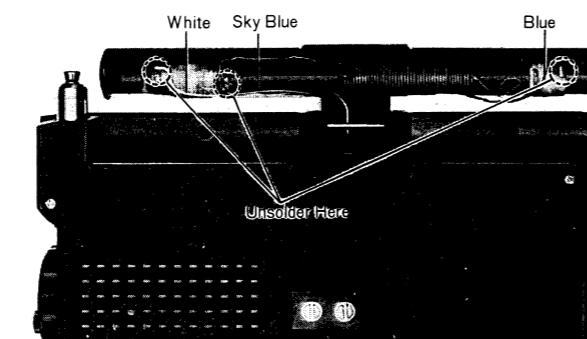

Fig. 7
2. Unsolder lead wires to gyro antenna, as shown in fig. 7.
4. To remove gyro antenna case completely, unsolder (on the side of the PC board) lead wires to gyro antenna, as shown in fig. 7.